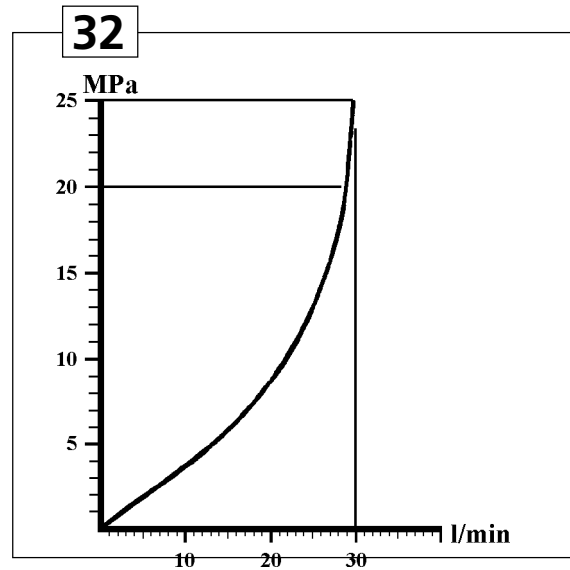

Fig 32
- 2) Correct pressure and flow. (Normal values are shown by the graph, fig 32.)